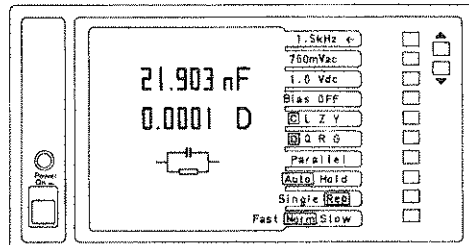

Fig. 4.2 A typical Normal mode display
Normal is the usual operating mode for obtaining measurements of component values in absolute terms, together with such secondary characteristics as Q, D and loss resistance. A typical display in the Normal mode is shown in Fig. 4.2.
Pressing the NORMAL key (the uppermost one when Main Index is displayed) will produce a display similar to that shown in Fig. 4.2. The actual frequency shown will be the last value selected, held in a non-volatile store. The frequencies available (in Hz) are : 20, 25, 30, 40, 50, 60, 80, 100, 120, 150, 200, etc, repeating each decade up to 60k, then 75k, 100k, 120k, 150k, 200k, 300k. Two methods are available for changing the frequency. For either method, the set-up arrow should be pointing to the frequency. If necessary, press the topmost soft key to bring the arrow to this position.
As shown in Fig. 4.2, the second from top soft key, in the NORMAL mode, shows the drive level of the ac test signal. There are 8 measurement ranges and the maximum drive level available depends on the range in use (whether selected in the Auto mode or one chosen by the operator in the Hold mode). These levels are as follows:
5.5 CAPACITANCE MEASUREMENT (refer to Fig. 4.2, page 4-2)
- 6 The display will show the numerical value and units (in Fig. 4.2, 21.903nF), the dissipation factor (0.0001D) and a diagram of C and R in parallel.